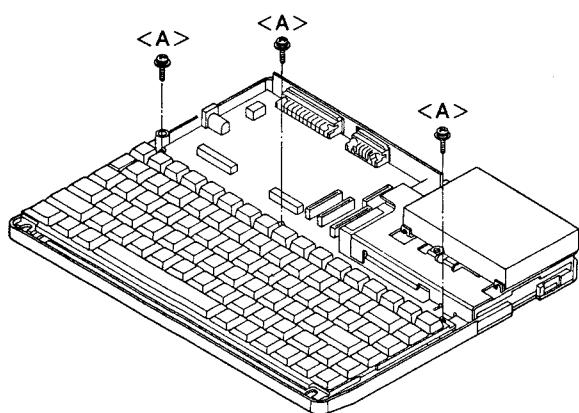

Figure 14
(1) After removing the top case, remove three screws <A> ($3\phi \times 6\text{mm}$) fixing keyboard as shown in Figure 14.